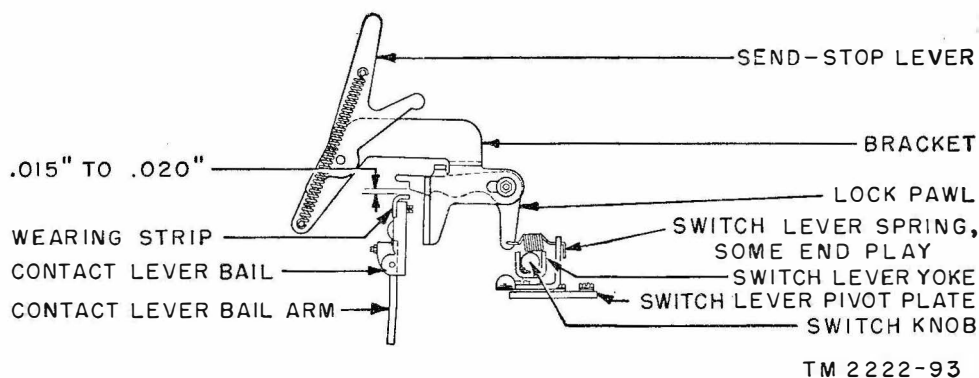

Figure 91. Transmission control relay switch lever pivot plate adjustment (XD91 only).
i. Replace the contact assemblies. With the SEND—STOP lever rotated out of the way of the lock-pawl extension, and the lock pawl resting on the long contact spring insulator, there should be a 0.015- to 0.020-inch clearance between the lower surface of the lock pawl and the upper surface of the blocking portion of the wearing strip. To adjust, position the contact assemblies by use of their mounting screws (fig. 91).
Position the pivot plate to meet the following requirements (see figures 91 for location of parts):
tion by the line shorting contact, the switch lever spring should have some end play (fig. 91). To adjust, position the pivot plate by use of its mounting screws.
lever spring should have some end play (fig. 91). To adjust, position the pivot plate by use of its mounting screws.